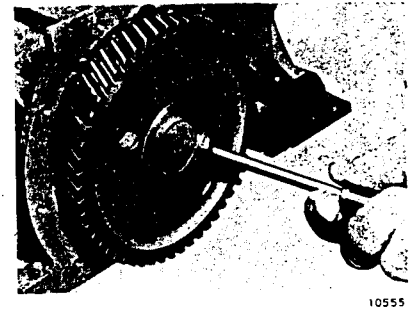

Figure 8-1-30
6. Remove two camshaft thrust plate screws by working through holes in camshaft gear (see Figure 8-1-30).